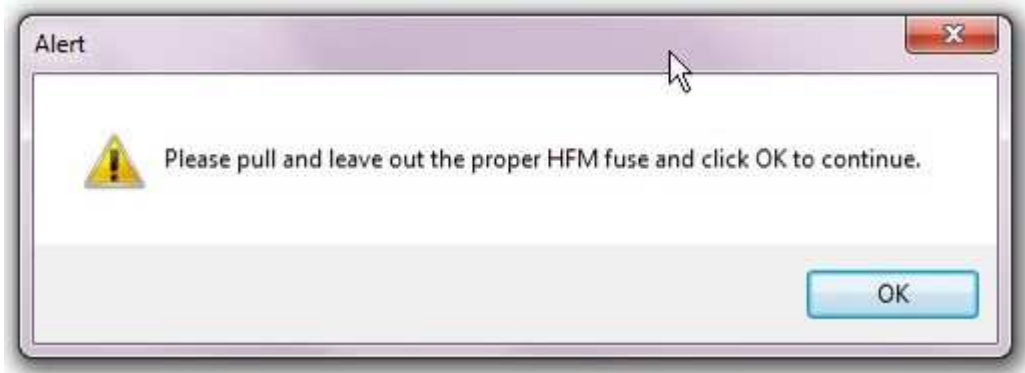

Fig. 12
9. Remove the HFM fuse and then click on “OK” (Fig. 12) .